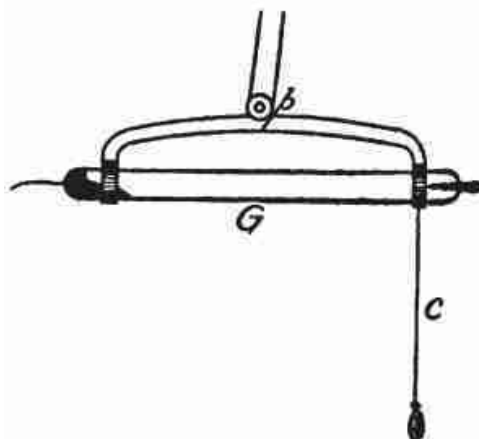

Fig. 105
27. *Mercury Vapour Lamp*.—This is an interesting variety of arc light in which the vapour of mercury takes the place of the vapour of carbon. *G*, in Fig. 105, represents a glass tube from which the air has been exhausted. The wires of the lighting circuit are fused into the ends of the tube. At one end, and in contact with one of these wires, is a small pool of mercury. By pulling the cord *c* the tube is tilted on the pivot *p*, so that a stream of mercury flows along the whole length of the tube and closes the electric circuit.